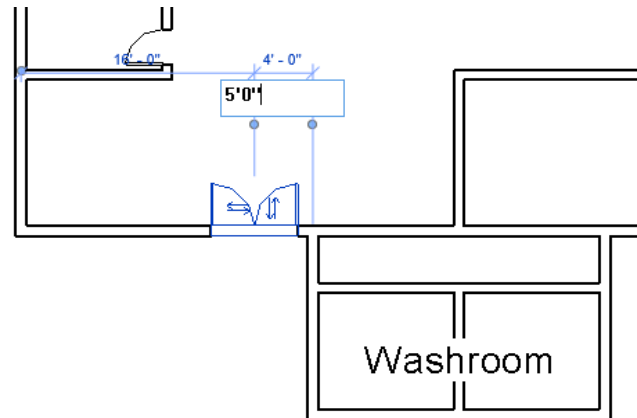

Figure 3-81 Using the dimension to place the door at the exact location
11. Move the cursor near the exterior wall side to the washroom, as shown in Figure 3-81, and click to add the entrance door close to this location.
12. Choose the **Modify** button and select the door and then click on the right side dimension to set it to **5'0"** for Imperial or **1500 mm** for Metric, as specified in the Figure 3-81.